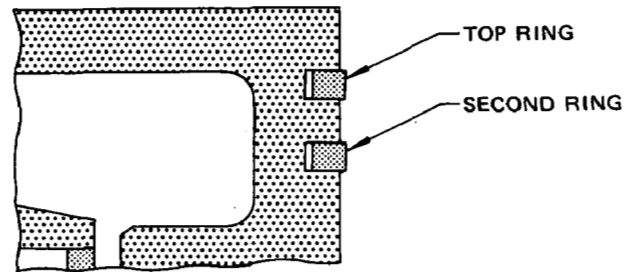

Fig. 6-3-3
- 3) ASSEMBLE RINGS IN THE ORDER OF 2ND RING AND 1ST RING. (Fig. 6-3-3)